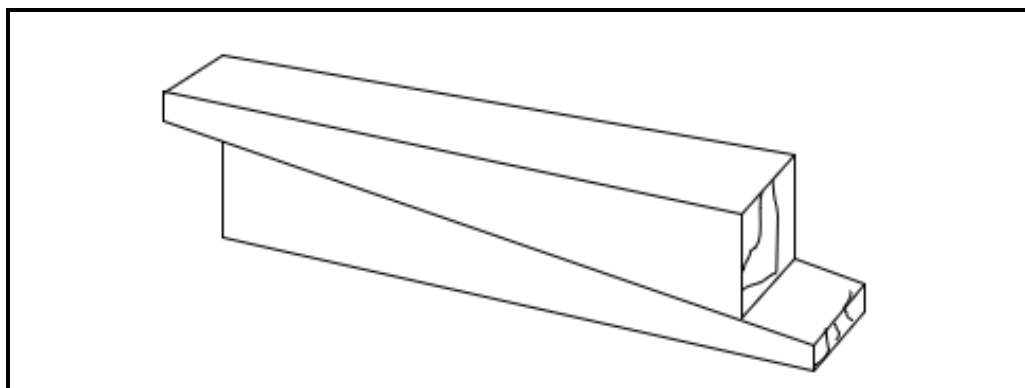

FIGURE 5.6
- 5.6 FIGURE 5.6 below shows a pictorial view of folding wedges used during the erection of centre centering.